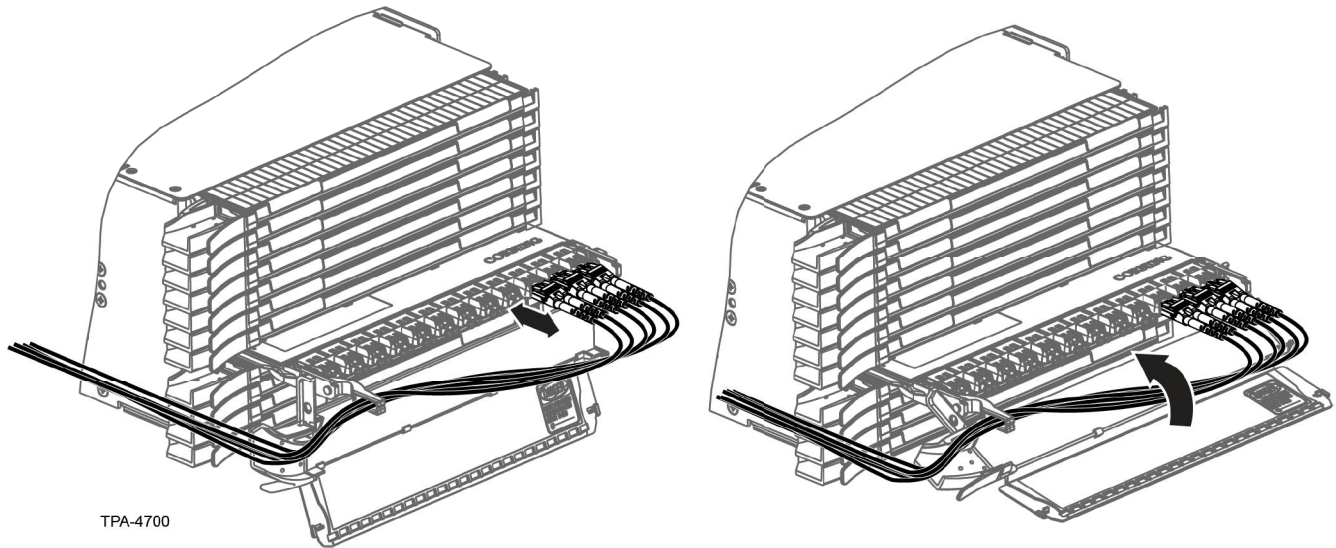

Figure 65
- Step 4: Disconnect jumpers as required. Clean adapters and connectors per standard company practices or as described in Section 9. Reconnect jumpers (Figure 65 left).
- Step 5: Raise handle. Dress jumper cords to the side of the cassette (Figure 65 right).